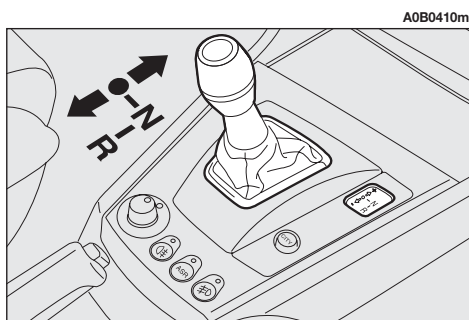

fig. 15
**Fig. 15** shows the gearshift lever with the lay-out of the movements needed to select the different gears.